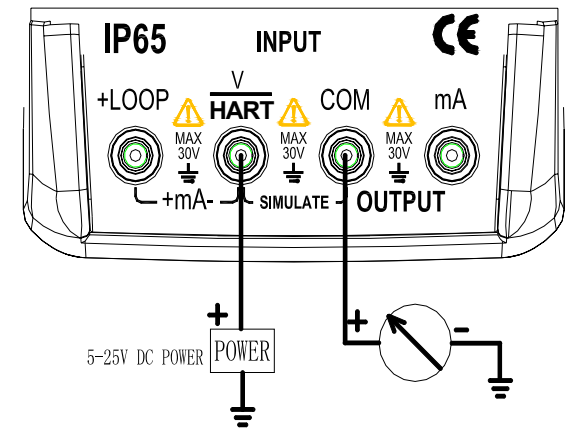

Figure 5-2
1. Insert one end of the test lead to the 'XMT' jack of the output terminal (OUTPUT) and connect the other end with the input terminal of the user's device as shown in the Figure 5-2: